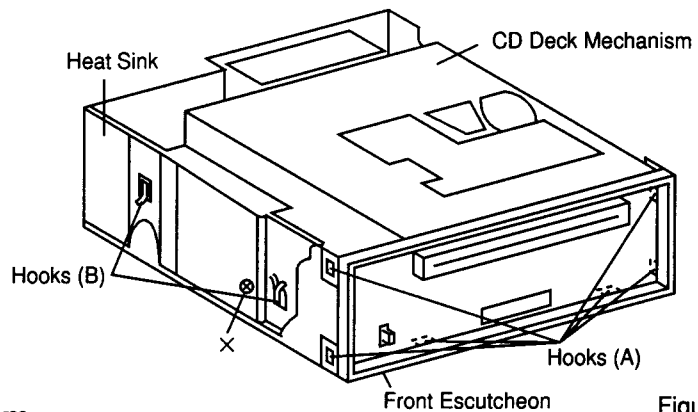

Figure 1
- (1) After remove the top cover and face plate, remove six Hooks (A) as shown in Figure 1.
- (1) After removal of CD Deck Mechanism, remove the Heat Sink by removing two Hooks (B) and a screw marked "X" as shown in Figure 1.